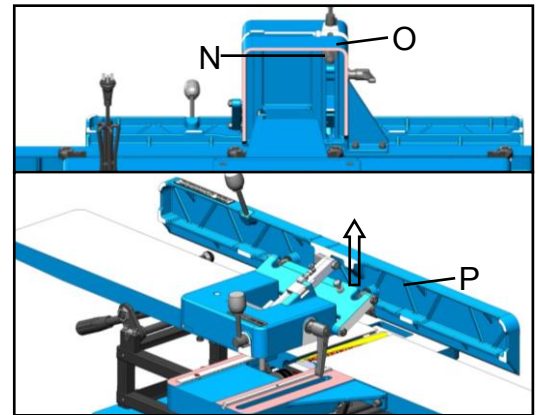

Fig. 16
5. Loosen the Hex. Nut (N) under the fence bracket (O), remove the fence assembly (P), Fig. 16